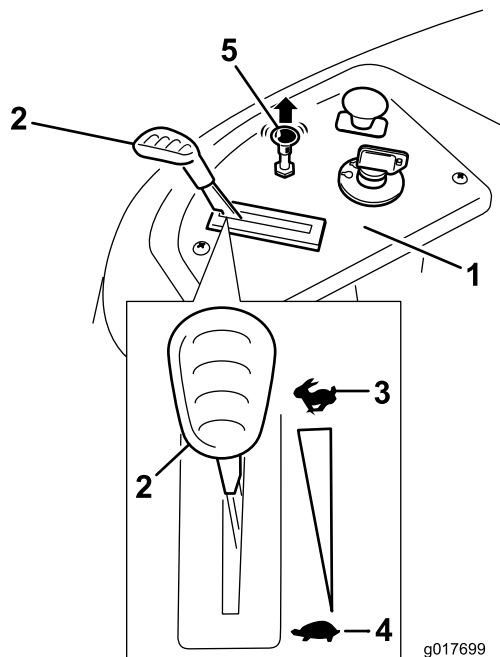

Figure 13
4. Pull up on the Choke control before starting a cold engine (Figure 13).
2. Move the throttle lever to the **Slow** position (Figure 13).